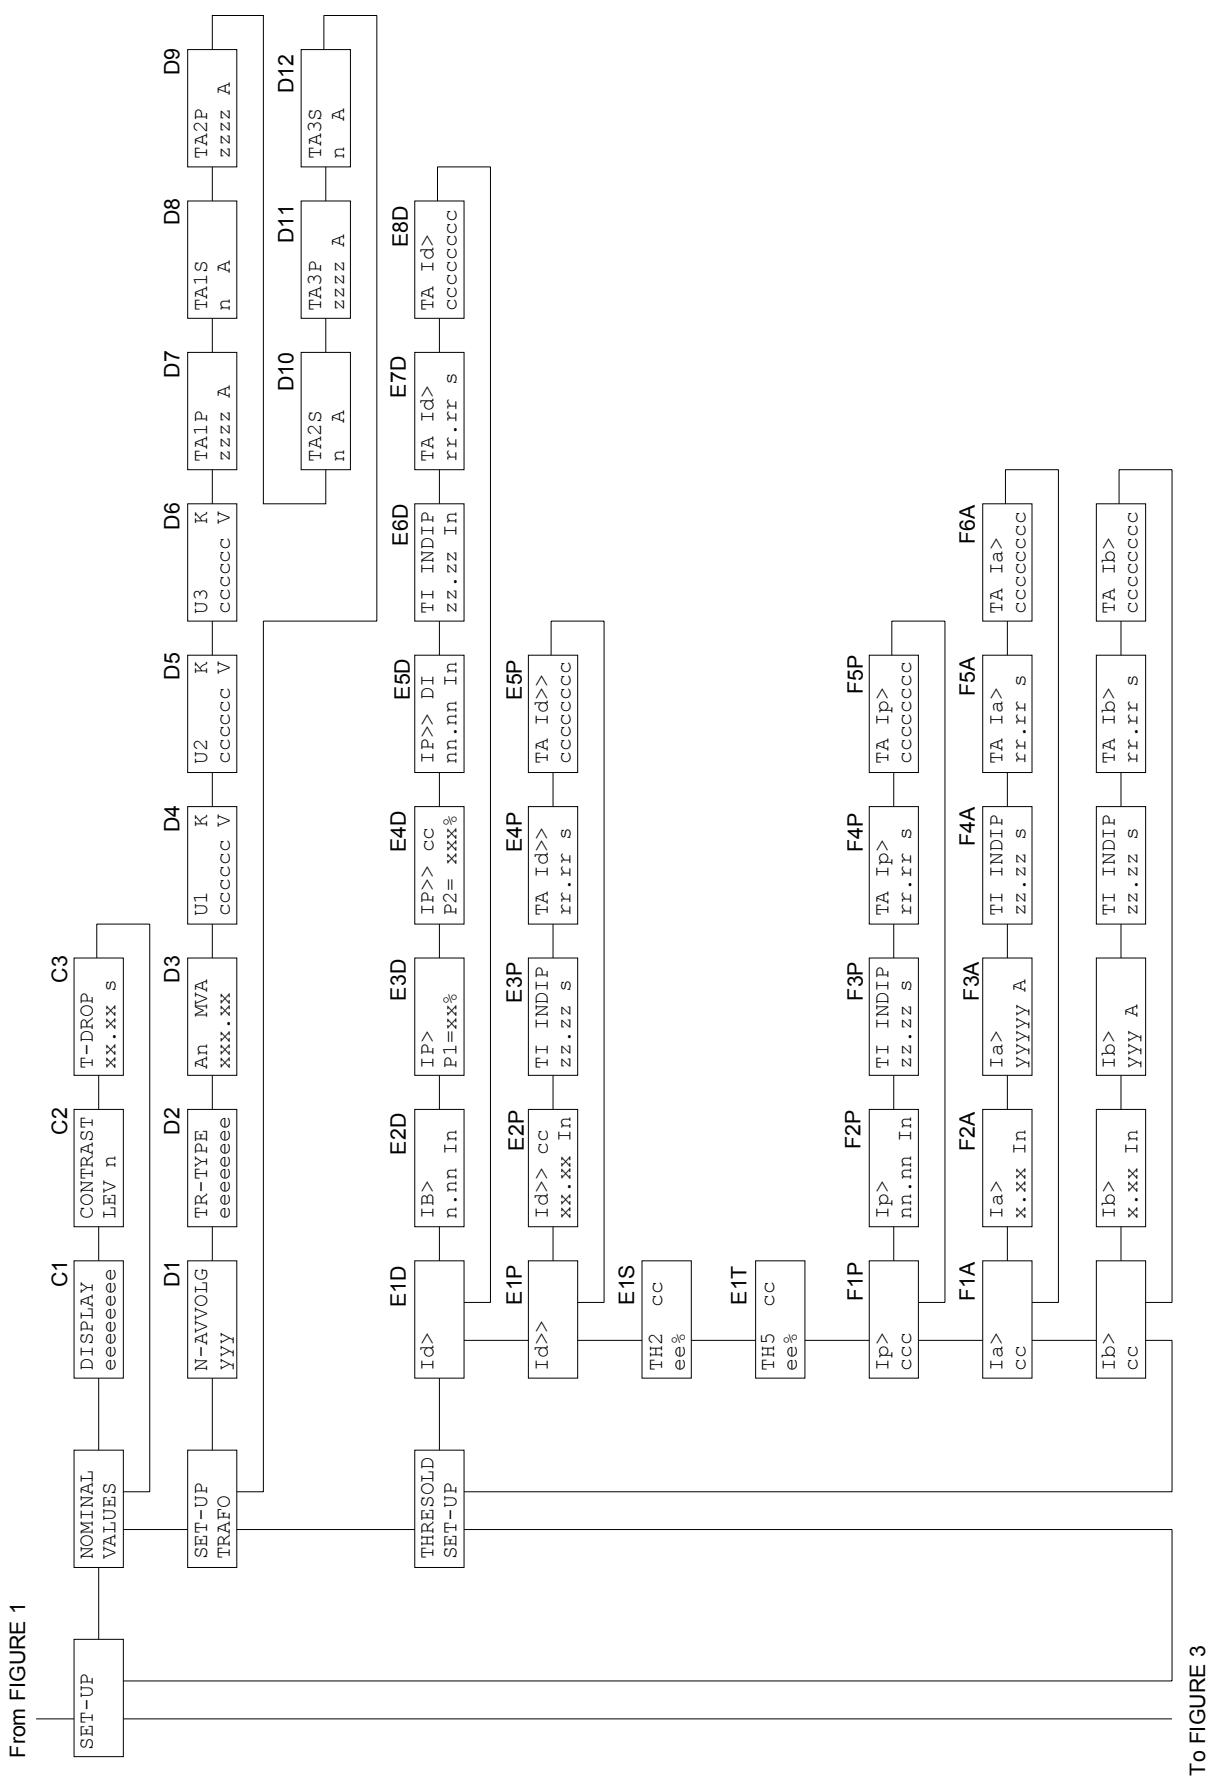

Figure 2
5.5 Nominal values of the protected transformer (fig. 2)**D1 - NUMBER OF WINDINGS (programmable)**